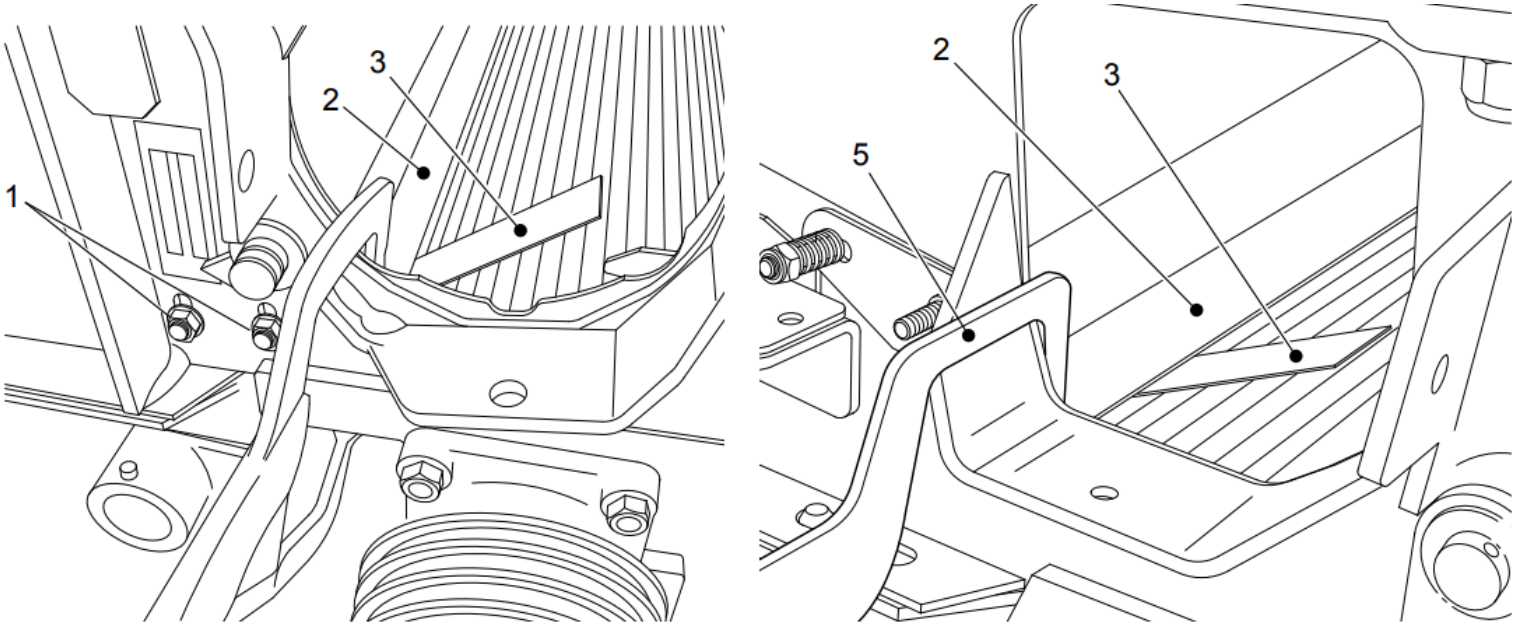
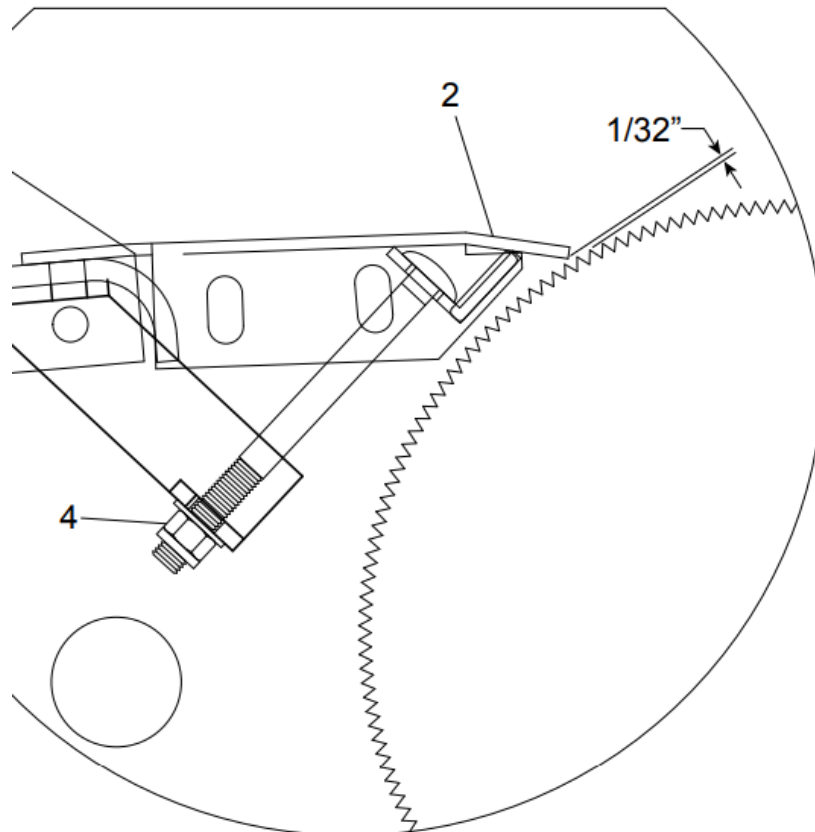

Figure 117 Processor roll adjustment
Figure 118 Processor roll adjustment
1. Hand tighten the two bolts on each side (item 1).
2. Insert a 1/32" spacer (item 3) at each end of the roll, between the roll and the half bottom (item 2).
3. Using a vise grip clamp (item 5 - Figure 118 Processor roll adjustment), lock the half bottom and roll together. Tighten the two bolts on each side properly (item 1 - Figure 117 Processor roll adjustment)
4. Using the three 5/16" X 4 1/2" lg carriage bolts (item 4), adjust to 1/32" the gap between the roll and the half bottom, over the entire width.